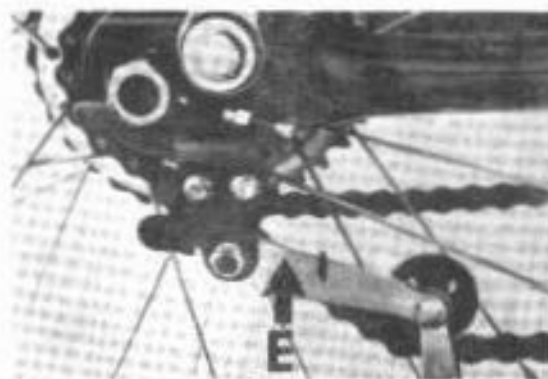

Fig. 28-2
- 3) Push the chain tensioner up into the locked position "E" Fig. 28-2.